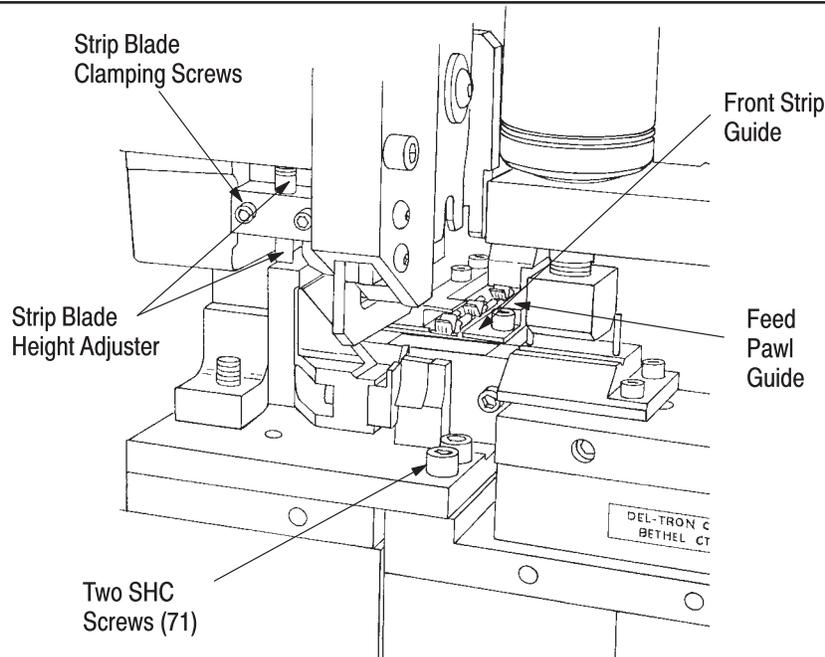

Figure 8
4. Tighten the two socket head cap screws (see item 71 sheet 2 of 4) to secure the applicator to the wire pull unit. See Figure 8.
5.5. Insulation Stripping Adjustment (Figure 8)